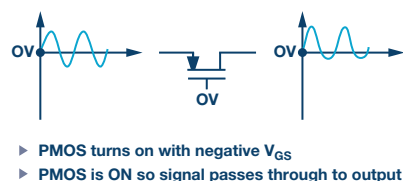

Figure 2. Overvoltage signal with power supply grounded.
2. If the power supplies are grounded, the PMOS device will turn on with negative V_{GS} so the switch will pass a clipped signal to the output, possibly damaging downstream components that would also be unpowered (see Figure 2). Note: if there are diodes to the supply, they will forward bias and clip the signal to +0.7 V.